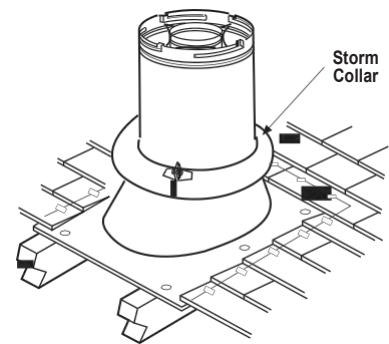

Figure 27
J. Install the storm collar - Install the storm collar, supplied with the flashing, over the vent/flashing joint. See **Figure 27**. Loosen the storm collar screw. Slide collar down until it meets the top of the flashing. Tighten the adjusting screw. Apply non-combustible caulking or mastic around the circumference of the joint to provide a water tight seal.